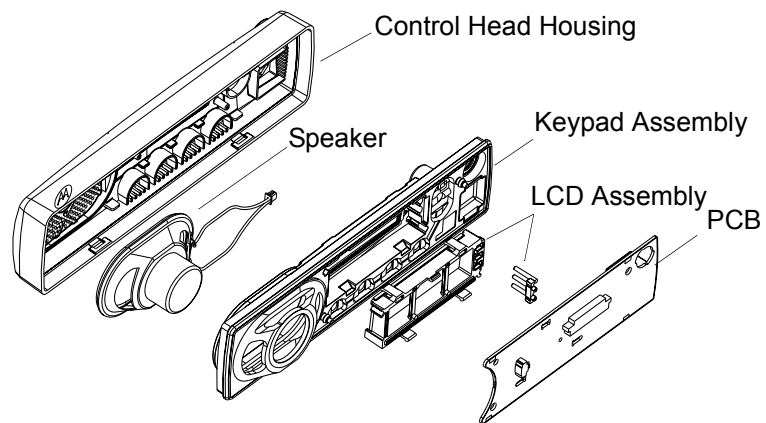

Figure 2-10 Control Head Housing Removal (CM160/CM360)
1. Disconnect the flat cable from the Control Head PCB connector. See Figure 2-10